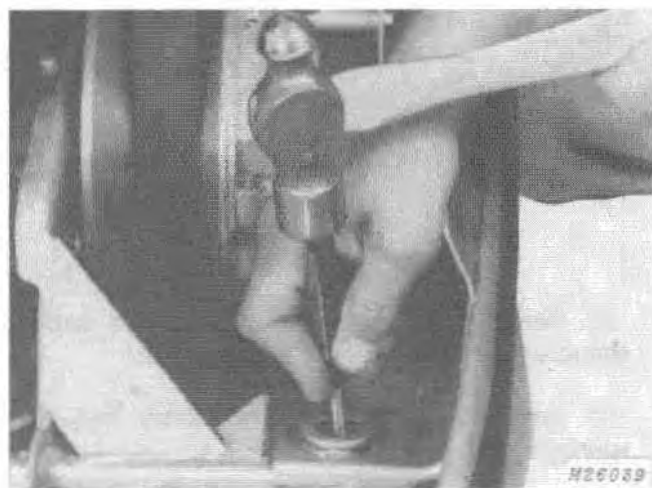

Fig. 10-Removing Ski Spindle Bushings
4. Use a drift punch to remove bushings, Fig. 10. Drive lower bushing out from the top. Reverse procedure to remove the upper bushing.